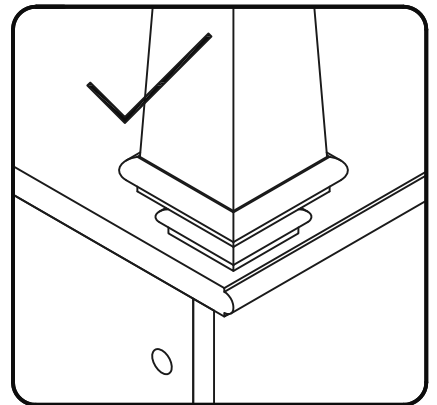

Figure 2
Attach Legs (O) to unit, orientating Legs (O) properly. (See Figures 2 and 3)